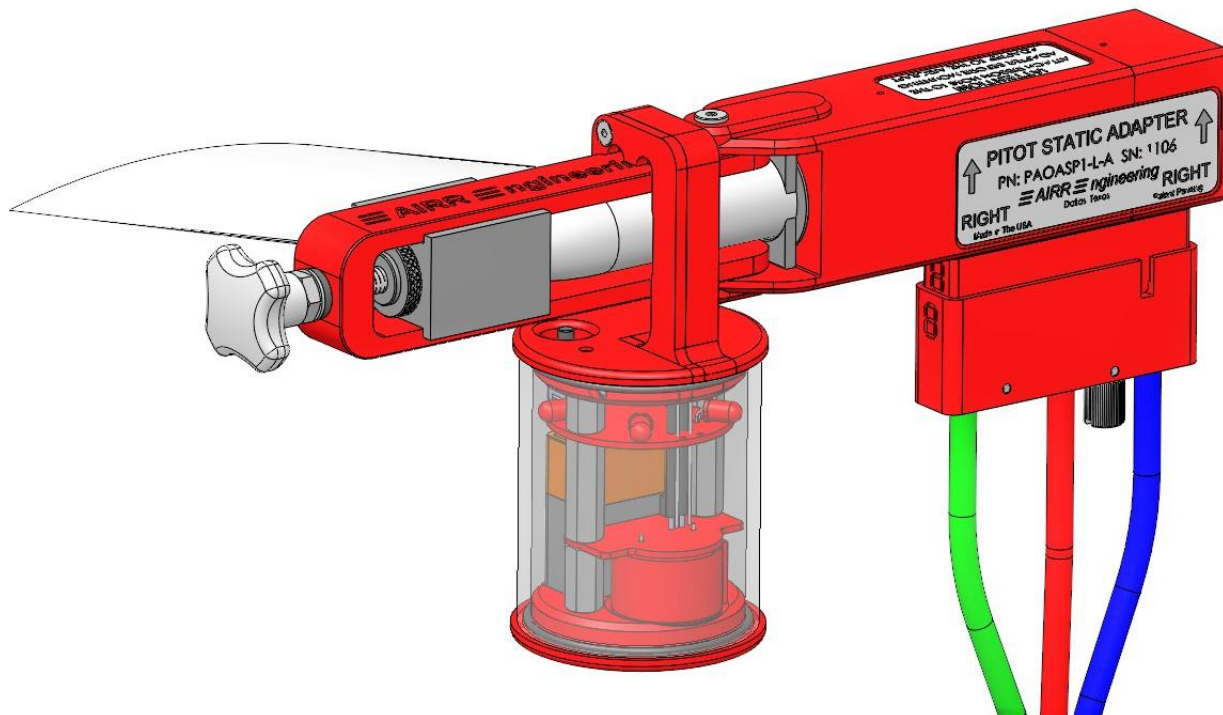

Figure 6: Pitot Saver Pitot heat safety alarm in place on top left and top right probes
- I. Hang the Pitot Saver Pitot heat safety alarms (optional accessory) on the top left and top right adapters at the location marked on the cam handle (Figure 6).